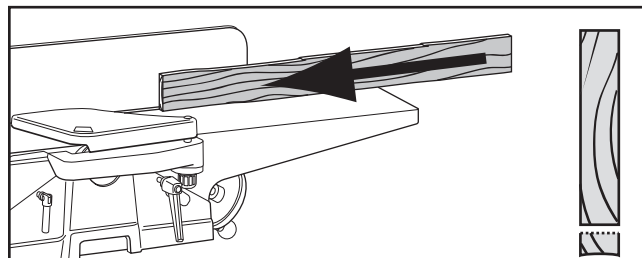

Figure 38. Edge jointing on the jointer.
3. **Edge Joint on the Jointer:** The concave edge of the workpiece is jointed flat with the jointer (see Figure 38).